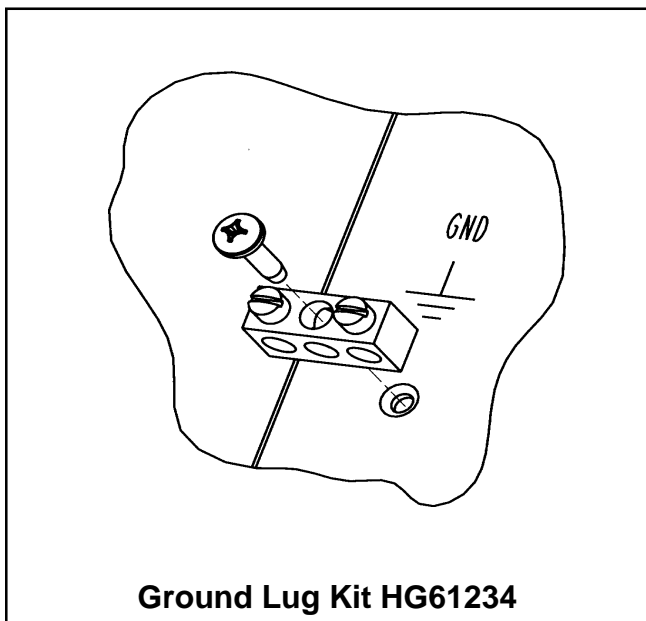

Fig. 1
4. Position Ground Assembly over existing hole as shown in Fig. 1 for HG61234 or Fig. 2 for HG656.